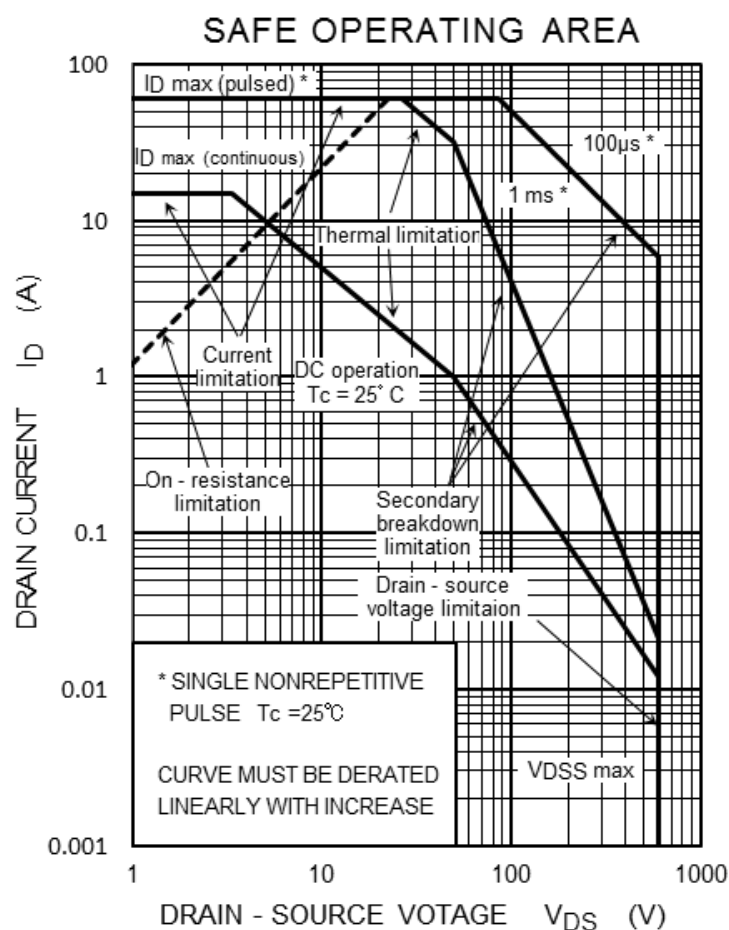
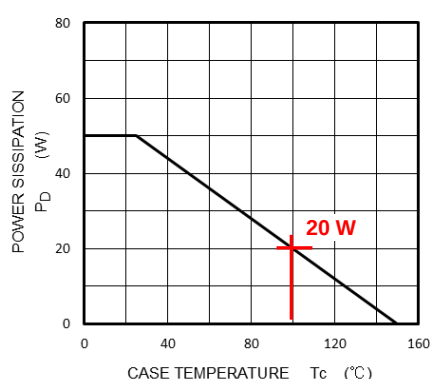
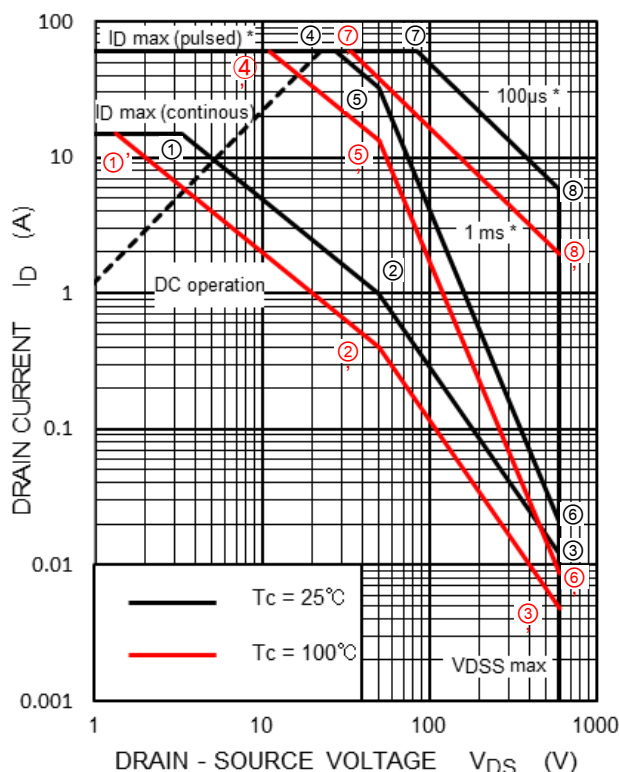

Figure 2.1 Safe operating area of a MOSFET
Figure 3.1 $P_D - T_c$ characteristics
Figure 3.2 Temperature derating of the safe operating area
The SOA is shown in Figure 2.1. For example, the power dissipation P_D with the derating at $T_c = 100^\circ\text{C}$ is calculated as follows. Figure 3.1 shows the $P_D - T_c$ characteristics of a MOSFET. For example, $P_D(T_c = 100^\circ\text{C})$ is derated using Equation 3-1. $P_D(T_c = 100^\circ\text{C})$ is calculated to be 20 W as shown below. Note that Equation 3-1 applies to the area bound by the thermal limitation.
In Figure 3.2, ① and ② are in the area bound by the thermal limitation. ① and ② lie on the iso-power line of $P_D(\max) = 50 \text{ W}$ ($V_{DS} \times I_D = 50 \text{ W}$). At $T_c = 100^\circ\text{C}$, The power dissipation is derated to a 20-W iso-power line derived from Figure 3.1. ①' and ②' can be calculated using Equation 3-3 and Equation 3-4 by derating V_{DS} at ① and I_D at ② to 40% using Equation 3-2.